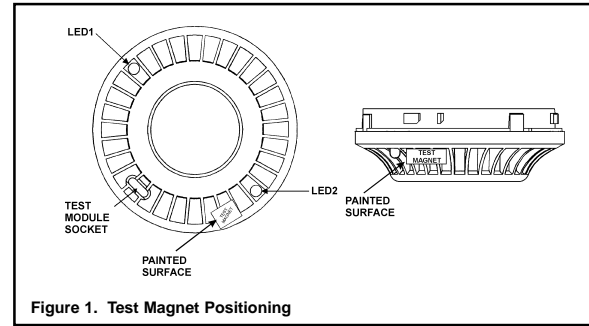

Figure 1. Test Magnet Positioning
- Test the sensor by positioning the test magnet against the sensor body approximately 2cm from LED1 in the direction of the metering socket, as shown in Figure 1.